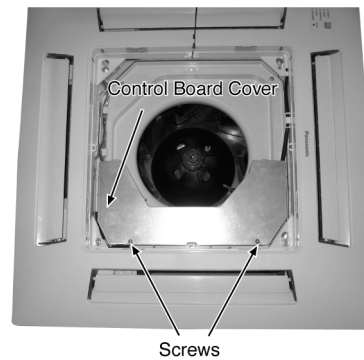

Fig. 2
2. Remove the Control Board Cover by removing the screws (Fig. 2).